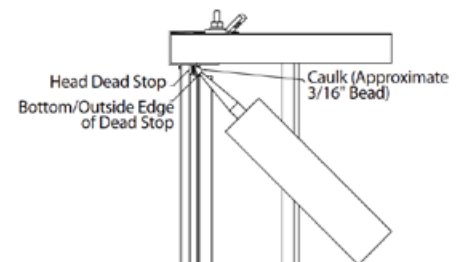

Figure C1
2. Starting at top of opening (head dead stop), apply a moderate (3/16") bead of caulk across the head dead stop using the bottom/outside edge as a guide. (**Figure C1**)